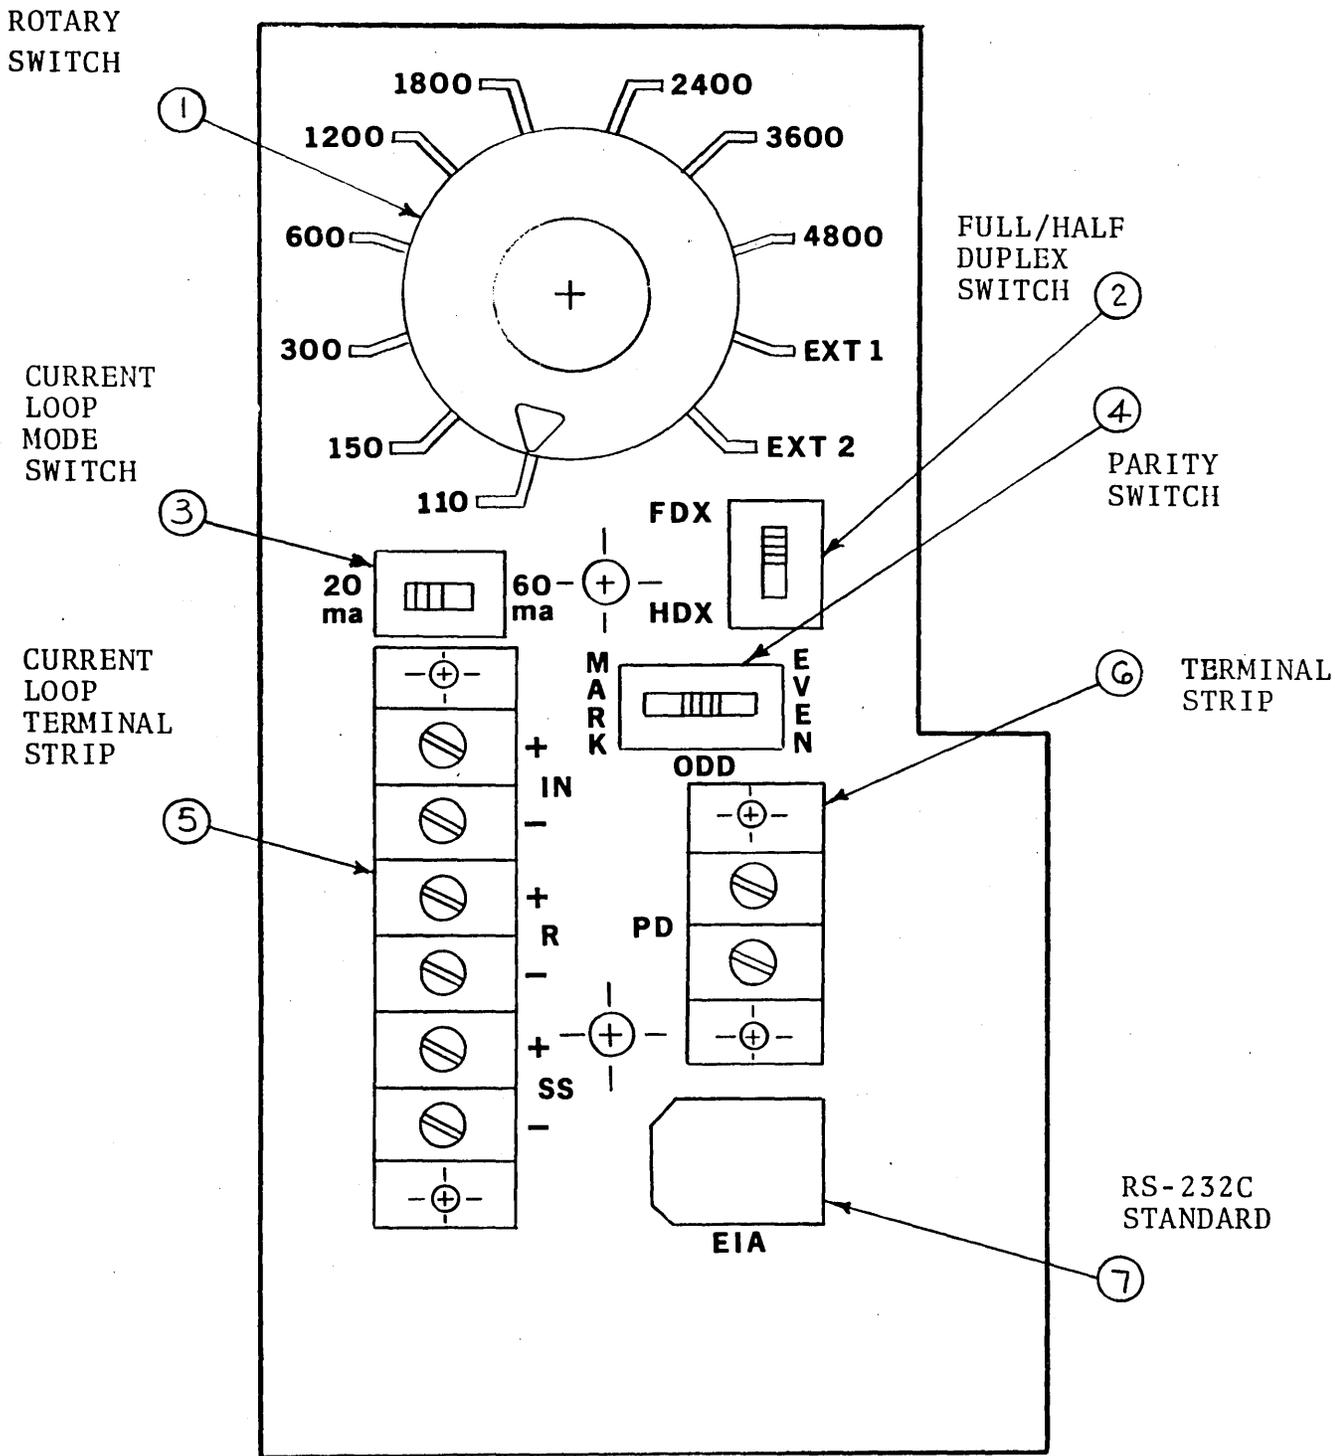
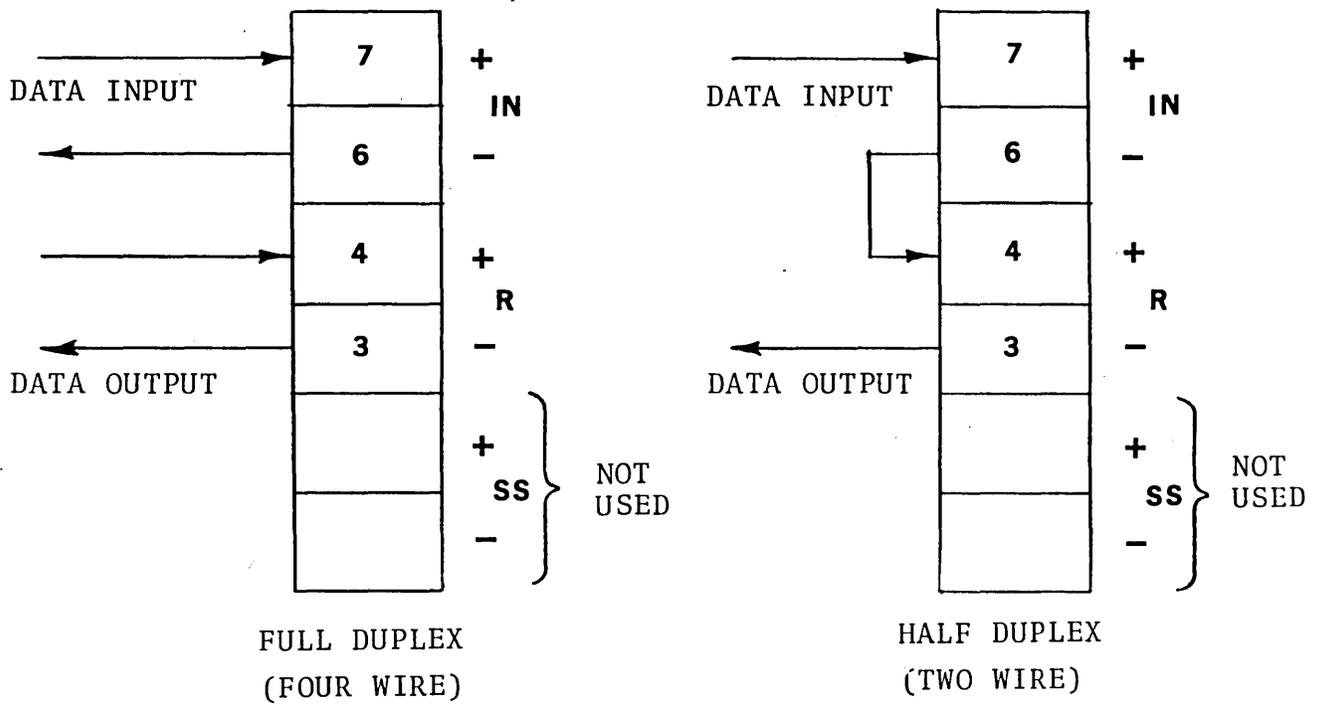

FIGURE 9: CONTROL PANEL OF ASYNCHRONOUS SERIAL INTERFACES I-103, I-104, and I-105
FIGURE 10: CURRENT LOOP CONNECTIONS
The Multipurpose Asynchronous Serial Interface is multipurpose in the sense that it provides both a communication interface compatible with EIA Specification RS-232C and a current loop interface in one printed circuit card. The interface provides an exposed panel in the rear of the terminal (see Figure 9) on which one may select various modes of operation. Specifically, the panel shown in Figure 9 contains:
5. A terminal strip used for connecting to the current loop interface. [Note: In some versions the connectors labeled "R" in Figure 9 are denoted "OUT", and the connectors labeled "SS" are not marked.]
The data transmission rate is determined by the setting of the rotary switch (reference point 1, Figure 9). The nine standard baud rates are 110, 150, 300, 600, 1200, 1800, 2400, 3600 and 4800. These rates are available with both the RS-232C and current loop interfaces of the multipurpose asynchronous serial interface; an internal crystal clock controls these nine rates.
The interface contains a connection to a local teletypewriter-like device at the terminal strip (reference point 6, Figure 9). Terminal #7 (+) of the Teletype is connected to the (+) terminal on the INFOTON asynchronous interface, and Teletype terminal #6 (-) is connected to the (-) terminal. The signal at the terminal of the INFOTON interface is a 20 ma output of all the ASCII characters received by the VISTA PLUS interface from the data channel.\* (This terminal block is not to be confused with the selective output to a hard copy device, which is initiated by the PRINT PAGE or PRINT FIELD commands.)
The VISTA PLUS is delivered with a 6-foot detachable cable which is used to connect the unit to a computer or appropriate modem. On one end of the cable is a MOLEX plug which fits into the rear of the VISTA PLUS (reference point 7, Figure 9). The other end of the cable has a 25 pin standard EIA connector, which is attached to the customer's modem or computer. The pin connections for the MOLEX and EIA connectors are specified in Table 7, along with the RS-232C designations of the signals.
When the RS-232 communication interface is used, the position of the Full Duplex/Half Duplex switch (reference point 2, Figure 9) is immaterial. The communication channel itself may be full duplex or half duplex, depending upon the system design.\*
The I-105 asynchronous serial interface contains a current loop interface which is compatible with the current/no current input and output of Teletype equipment. The sensitivity of the interface may be set to 20 or 60 milliamperes by a switch (reference point 3, Figure 9).
When the interface is operating in the current loop mode, the full duplex/half duplex switch (reference point 2, Figure 9) must be in the full duplex (FDX) position. The actual choice between a full or half duplex data channel is made by the wiring to the terminal strip (reference point 5, Figure 9). Figure 10 shows the wiring for the two choices. The numbers on the connectors in Figure 10 refer to the number of the corresponding pins on a Teletype barrier strip. Two-wire twisted pair or four-wire twisted pair cabling is recommended for half or full duplex operation, respectively.
Figure 9 illustrates the control panel for the I-103 interface. The hardware at reference points 3 and 5 is not operative in the I-103 interface.
Figure 9 illustrates the control panel for the I-104 interface. The hardware at reference point 7 is inoperative in the I-104 interface.